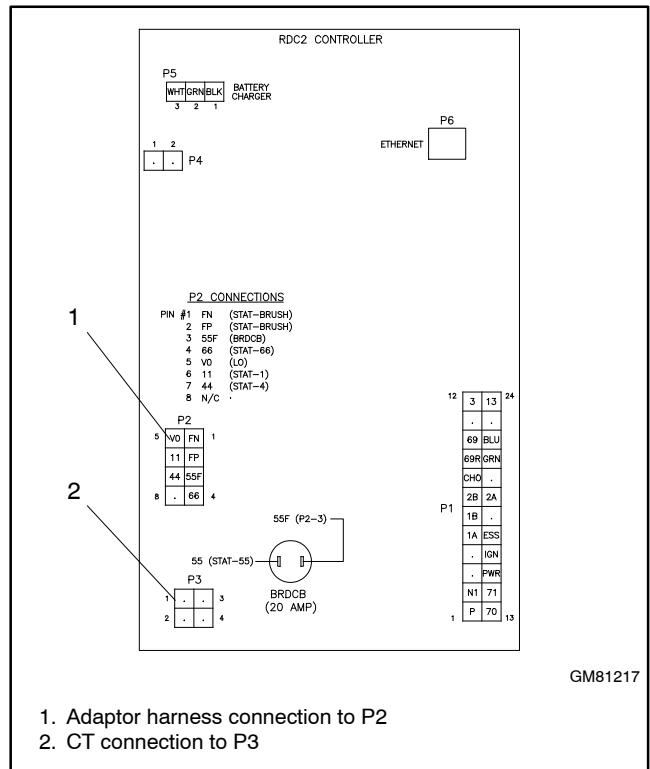
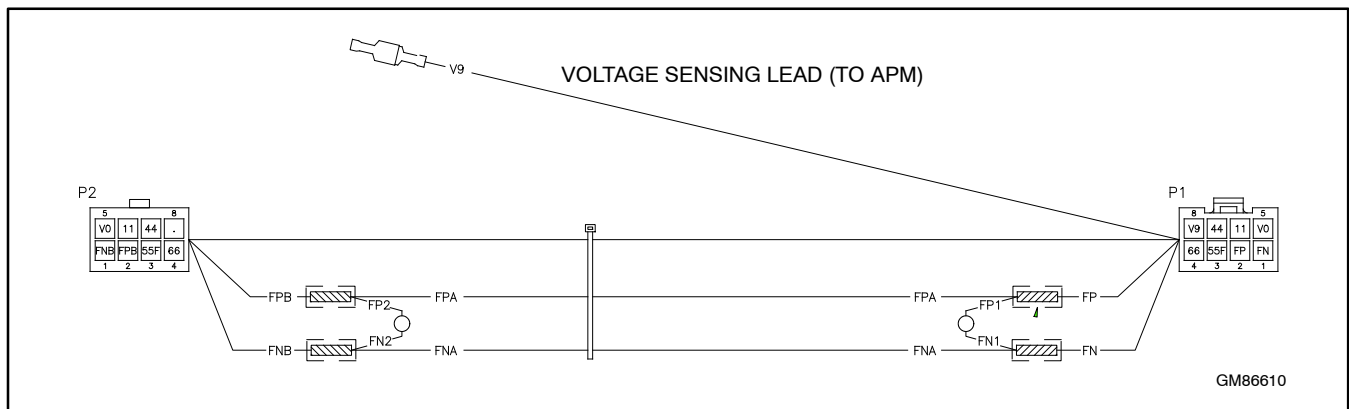

Figure 6 Current Transformer and Adaptor Harness Connections to RDC2
Figure 8 Adaptor/Protection Harness GM86610 (provided)
4. Connect the CT harness to connector P3 on the RDC2 controller inside the generator set. See Figure 6.
- a. Disconnect the generator set harness at P2 on the back of the RDC2 controller. See Figure 6.
- b. Connect the adaptor harness to P2 on the RDC2 controller. See Figure 6 and Figure 8.